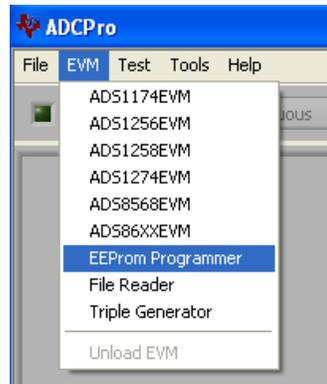

Figure 4
3. Load the EEPROM Programmer plug-in. It should be in the EVM pull-down menu as “EEPROM Programmer.” **Do not** use the EEPROMrgMMB3. See Figure 4 below –